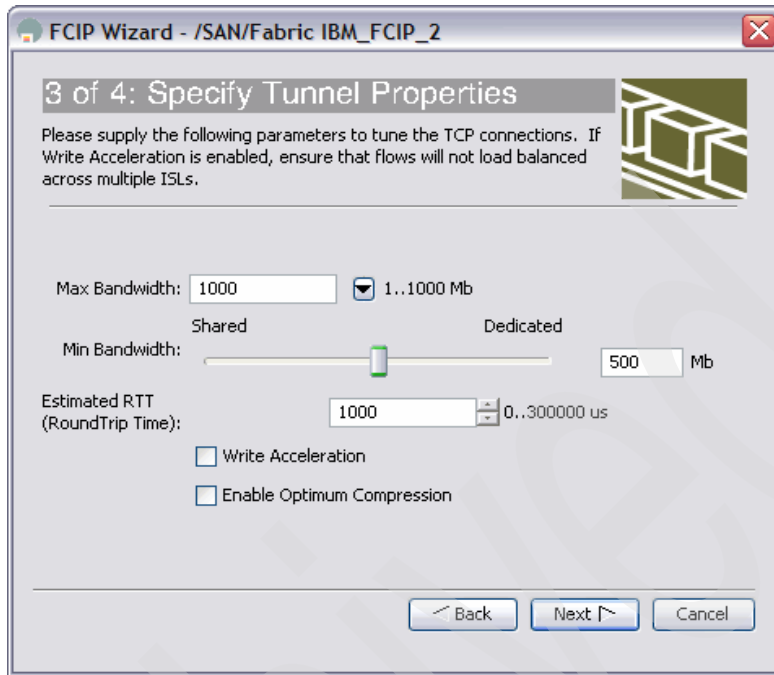

Figure 12-15 FM FCIP Wizard panel 3 of 4
- e. In the next panel (Figure 12-15 on page 346), we configure the FCIP tunnel properties. This is where we perform most of the tuning changes. We discuss this in greater detail in 12.5.1, “Advanced FCIP profile configuration” on page 362, 12.5.2, “Advanced FCIP interface configuration” on page 364, 12.5.3, “Configuring FCIP write acceleration” on page 366, and 12.5.4, “Enabling FCIP compression” on page 367. For our example, we use the default settings.